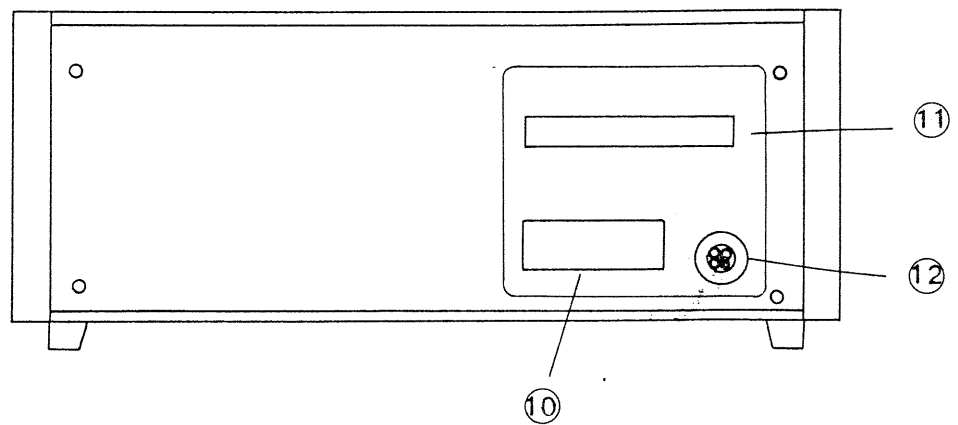

Fig. 3-2 Rear panel
3.2 Explanation of Rear Panel (Refer to Fig. 3-2.)
(10) Terminal block (lower five terminals):